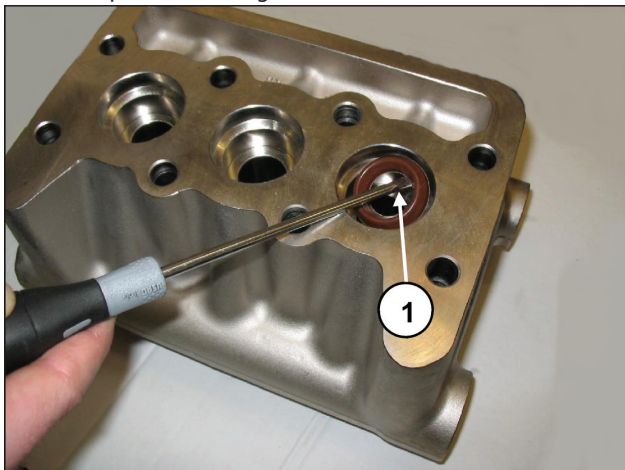

Fig. 30
- C) Extract the high pressure seals from the head and the low pressure ones from the support, using simple tools as indicated in Fig. 30, pos. ① being careful not to damage the respective housings.